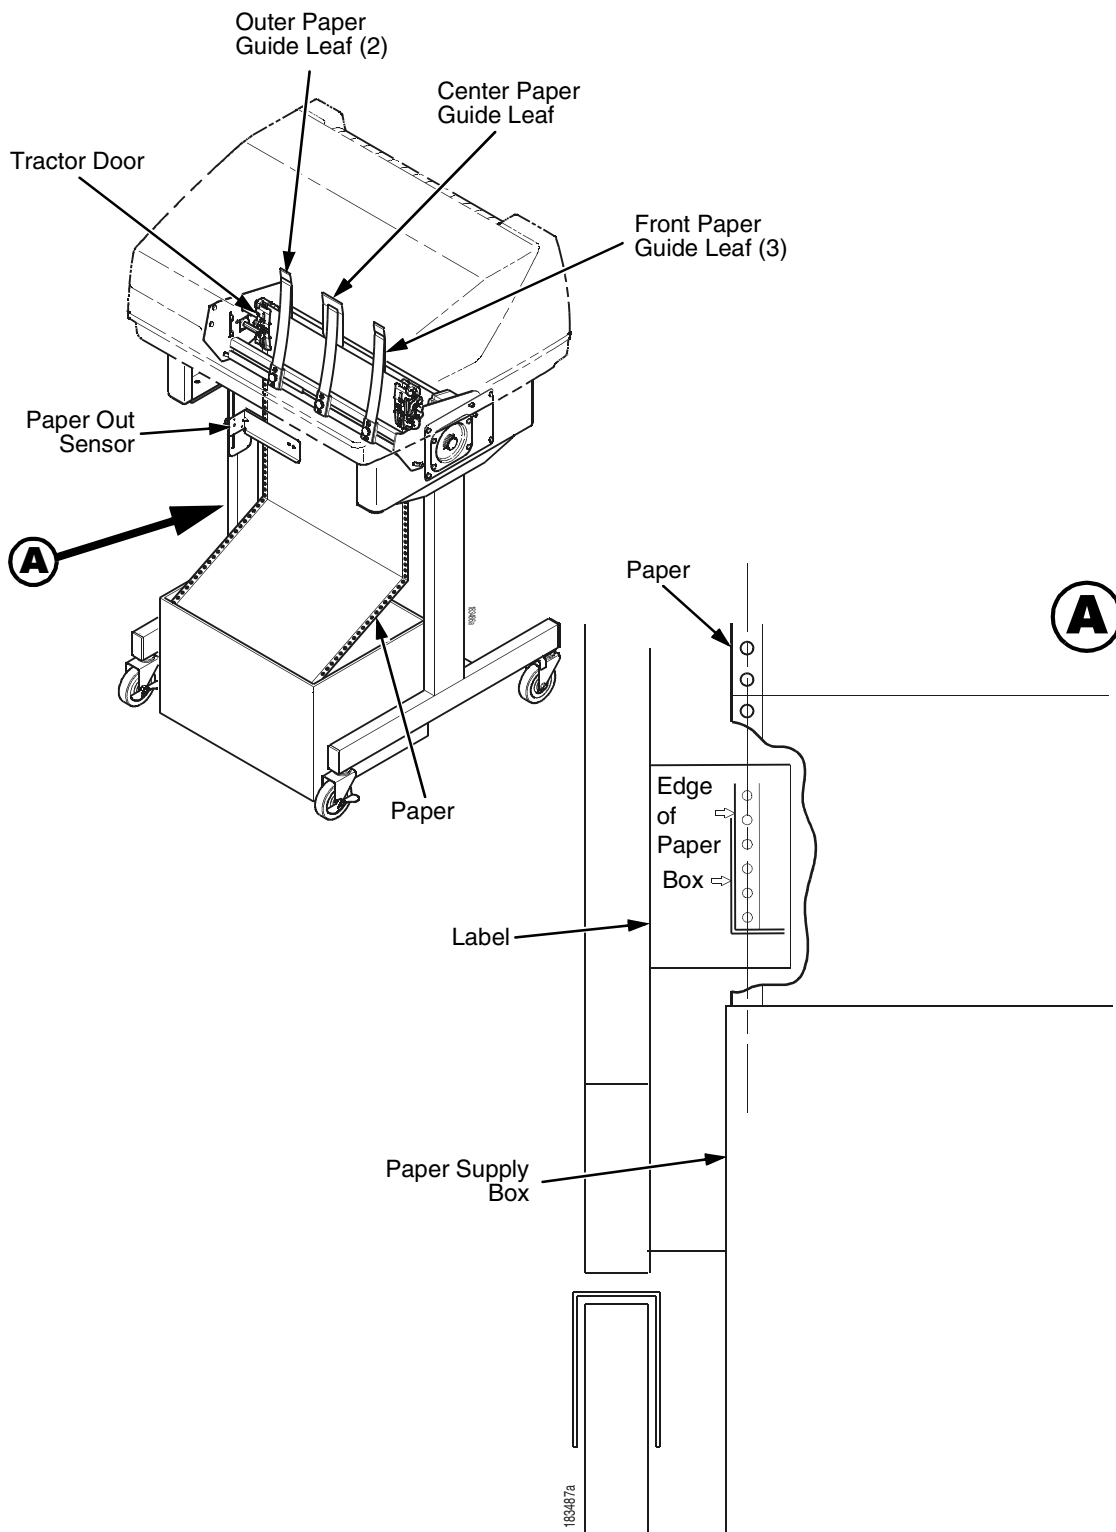
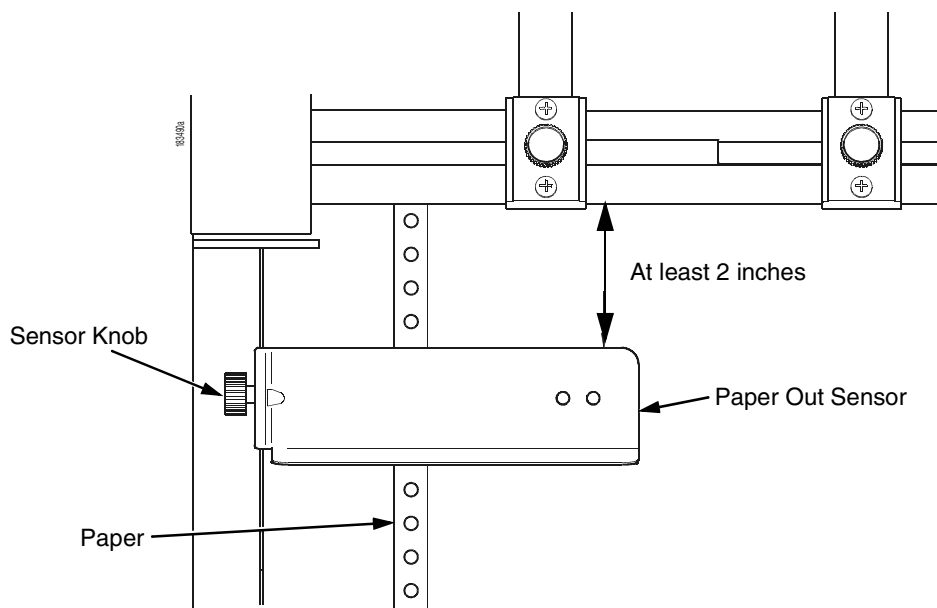

Figure 31. Loading Paper Onto The Printer
Figure 34. The Paper Out Sensor
1. Align the paper supply box with the label on the bottom left side of the modesty panel. (See Figure 31 on page 296.)
The paper out sensor indicates when the printer runs out of paper. (The sensor does not work with black backed forms.) Unlike the standard pedestal printer, the ZT printer requires you to load the paper through the paper out sensor slot (Figure 31 and Figure 34). Correct positioning of the paper out sensor ensures that the last form the printer prints will be properly presented to the tear bar. To position the paper out sensor, do the following: